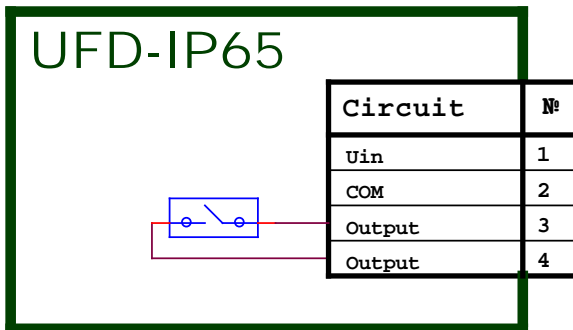

Fig. 1. UFD-IP65 connecting chart.
4.1. The UV vacuum tube detects the ultraviolet light of a flame. Into the detector a high voltage approx. + 300V is generated and is applied to the tube. The signal from the tube is amplified and filtered. After filtering, the signal is compared with the threshold value. When a flame is detected the free potential contacts of the output relay close between contacts 3 and 4. The connection diagram of the UFD-IP65 is shown in Fig.1.